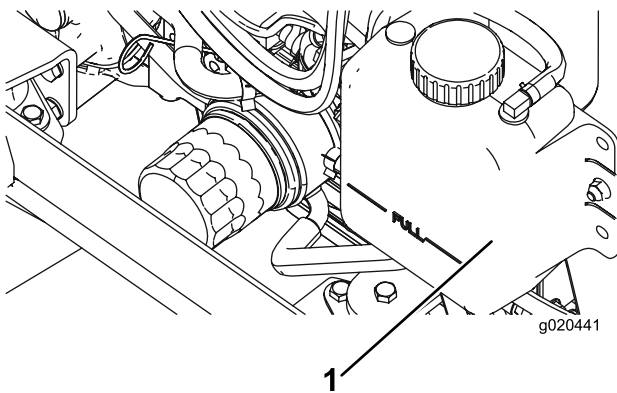

Figure 67
1. Carefully remove the radiator cap and expansion-tank cap (Figure 67).